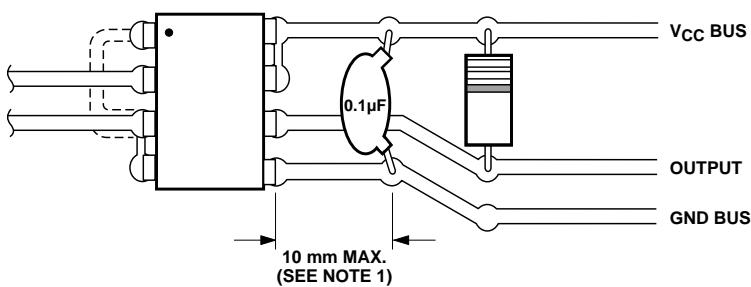

Figure 15. Recommended Printed Circuit Board Layout.
1. Bypassing of the power supply line is required with a $0.1 \mu\text{F}$ ceramic disc capacitor adjacent to each optocoupler, as illustrated in Figure 15. Total lead length between both ends of the capacitor and the isolator pins should not exceed 10 mm.
8. CM_L is the maximum tolerable rate of fall of the common mode voltage to assure that the output will remain in a low logic state (i.e., $V_{OUT} < 0.8 \text{ V}$). This specification assumes that good board layout procedures were followed to reduce the effective input/output capacitance as shown in Figure 15.